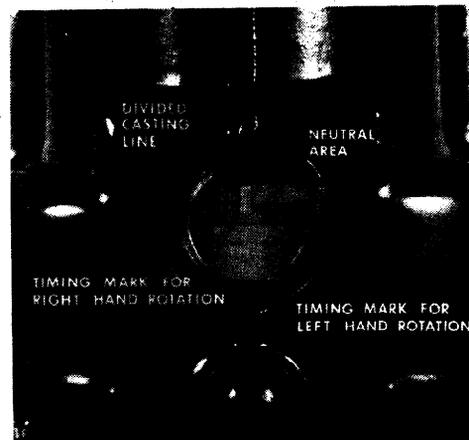

Figure 1. Alignment of Magnet Marks – Right Hand Rotation
- b. Continue turning the engine slowly, still in the direction of normal rotation, until the proper timing mark on the rotating magnet is centered in the viewing hole. Figure 1 illustrates the timing mark centered for a right hand rotation magneto. A left hand rotation magneto would have the left hand mark centered. Eight cylinder magnets will show an "R" line or an "L" line on the rotating magnet through the viewing hole.
- c. Turn engine slowly back toward number one cylinder firing position until proper timing mark on magnet is in center of the viewing hole (See figure 1).